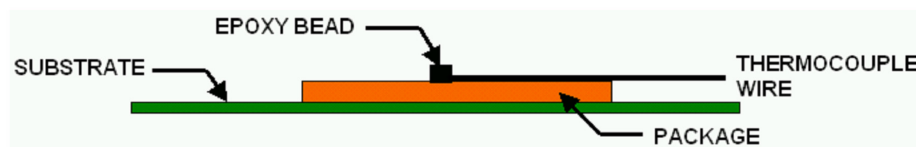

Figure 71. Technique for Measuring Tcase with a 0° Angle Attachment
- Attach the thermocouple at a 0° angle if there is no interference with the thermocouple attach location or leads (Figure 71). This is the preferred method and is recommended for use with non-enhanced packages.